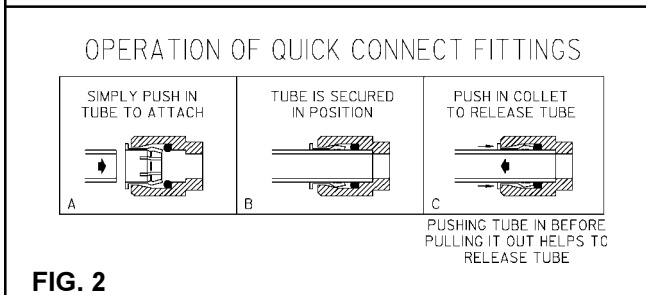

FIG. 2
3. **Actuation of Quick Connect Water Fittings:** Cooler is provided with lead-free connectors which utilize an o-ring water seal. To remove tubing from the fitting, relieve water pressure, push in on the gray collar while pulling on the tubing (See Fig. 2) To insert tubing, push tube straight into the fitting until it reaches a positive stop, approximately 3/4".